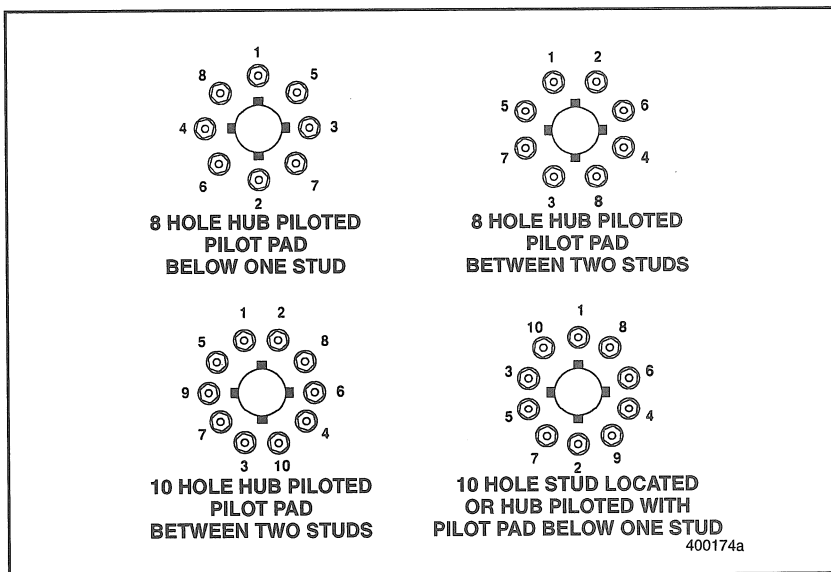

Figure 84 — Disc Wheels with Stud Piloted Ball Seat Tightening Sequence
Dual Disc Wheels (Stud Piloted Ball Seat) — Loosen outer wheel nuts first, then tighten the inner nuts in sequence shown (Figure 84) to the specified torque value given in table on page 230. After inner nuts are tightened, tighten outer wheel nuts, in sequence, to the specified torque value.
3. Starting at the top stud position, partially torque the nuts in the sequence as shown in the illustration Figure 84.